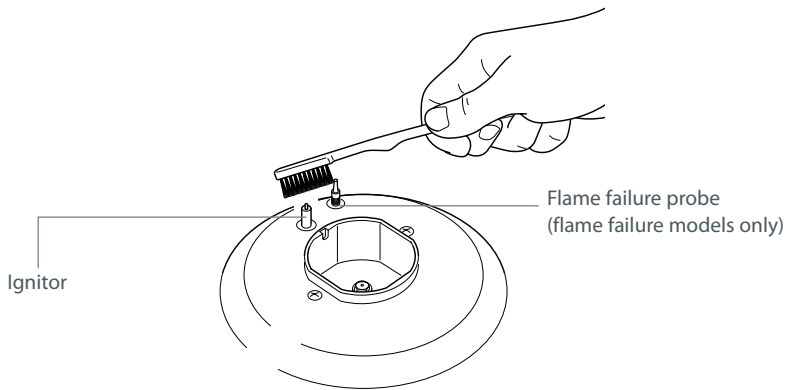

Fig.5 Cleaning the ignitor and probe
Some cooktop models have a flame failure safety device. These models have a flame failure probe as well as the ignitor (see Fig 5).
- The ignitors are sparking. If the ignitors are not sparking, they may be dirty or wet. Clean them with a toothbrush and methylated spirits, as shown in Fig. 5.